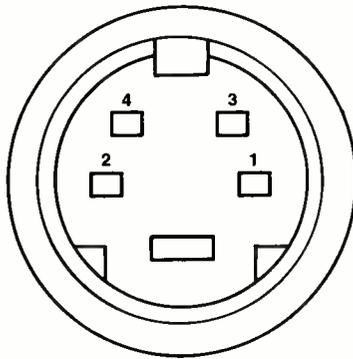

Fig. 1. The S-Video plug as viewed from the "solder tab" end, illustrating the pin locations as described in the text, is a 4-pin "mini-DIN" type of connector.
**A** The S-Video standard separates the luminance and chrominance signals into two lines to reduce crosstalk and increase bandwidth and is incompatible with standard line-level video. The connector pinout, as seen from the solder lug side, is shown in Fig. 1. Pin 1 is the luminance ground; pin 2 is the chrominance ground; pin 3 is the luminance/ sync signal; and pin 4 is the chrominance signal